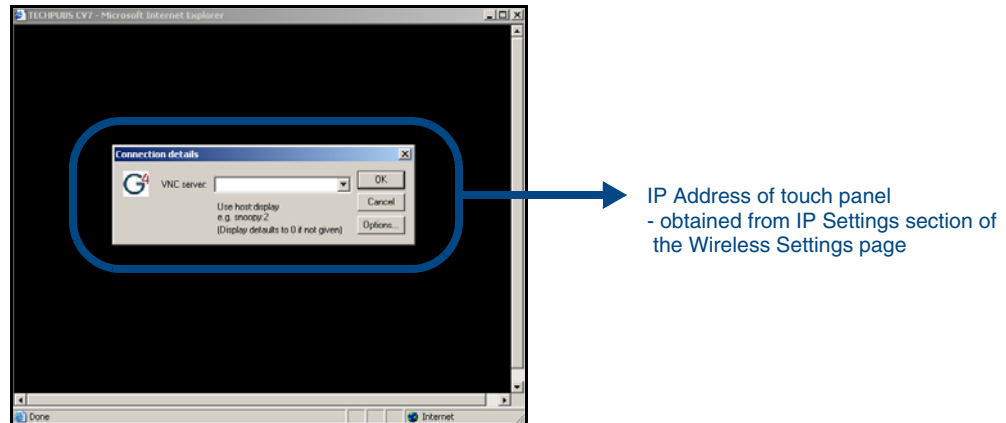

FIG. 46 Connection Details dialog
8. In some cases, you might get a *Connection Details* dialog (FIG. 46) requesting a VNC Server IP Address. This is the IP Address not the IP of the Master but of the target touch panel. Depending on which method of communication you are using, it can be found in either the:
10. Enter the Web Control session password into the *Session Password* field (FIG. 46). *This password was previously entered into the Web Control Password field within the G4 Web Control page on the panel.*